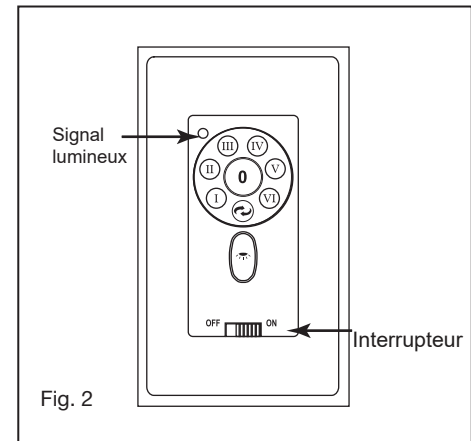

Fig. 2
- 7** Signal lumineux (Fig.2)6)